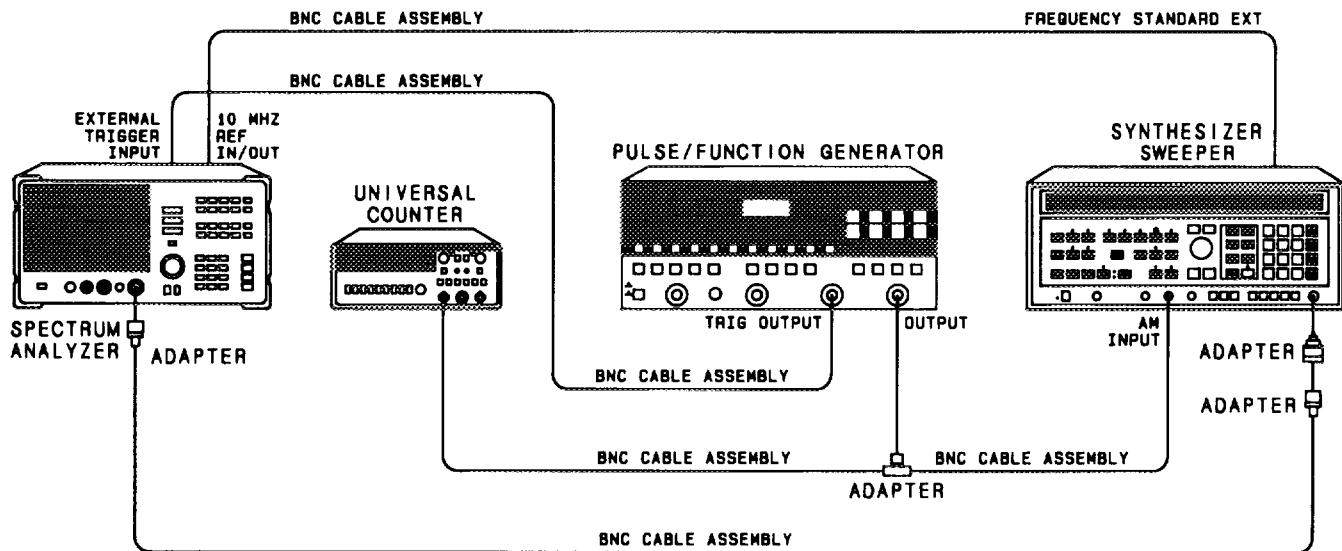

Figure 3-23. Sweep Time Accuracy Test Setup
1. Connect the equipment as shown in Figure 3-23, with the BNC cable from the HP 5316A connected to the HP 8562A/B EXT TRIG INPUT.